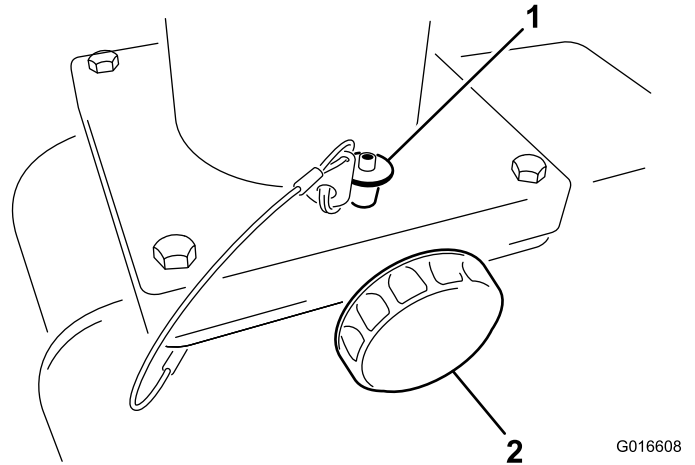

Figure 10
1. To rotate, loosen the clamp knob, then press the spring-loaded button on the locking pin handle in and pull the locking pin from the chute plate (Figure 10).